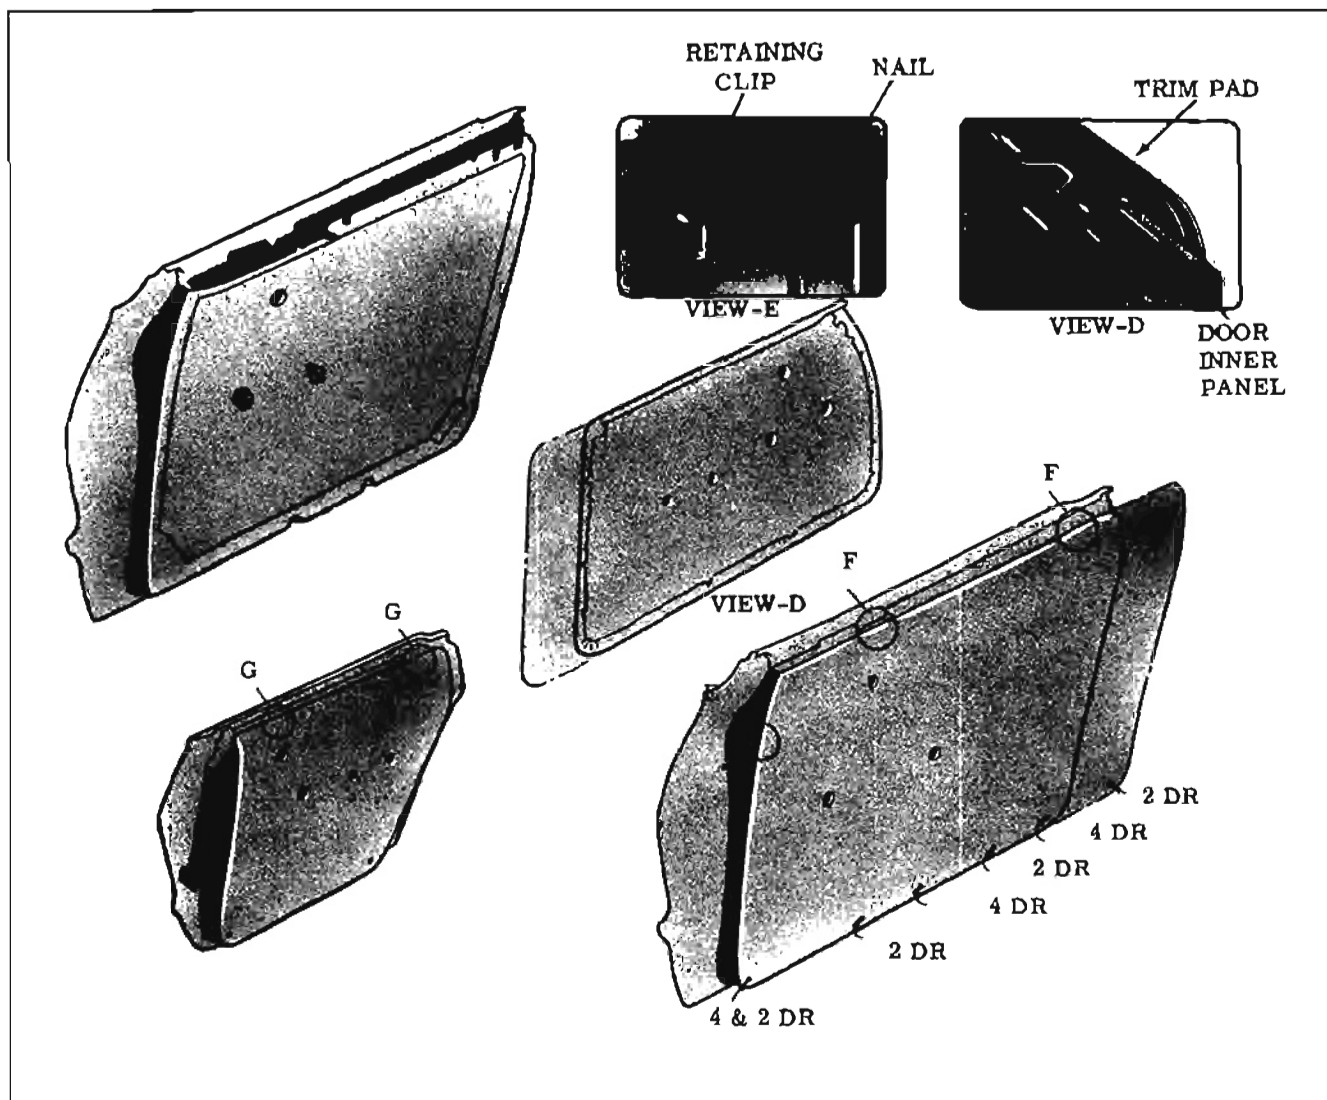

Fig. 16-31 Door Trim Assemblies
All door trim assemblies are the hand-on type and are further secured by attaching screws along bottom edge and by retaining nails inserted into plastic retaining cups in the door inner panel. (Fig. 16-31, Views "D" and "E")
- Remove screws securing trim assembly to door inner panel. (Fig. 16-31)